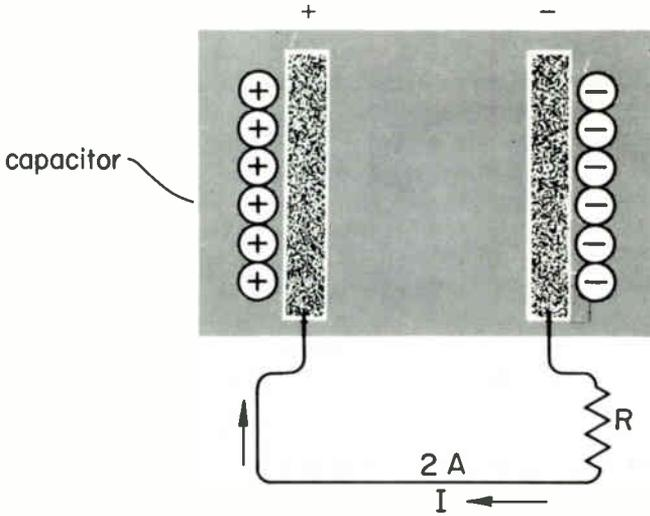

Fig. 13
1. Figure 13 shows a wire connecting a resistor *R* between the charged plates of a capacitor. Because of the potential of the opposing charges, a 2-A (ampere) current flows through the connecting wire. As a result, the quantity of electricity stored in the capacitor (*increases*) (*decreases*). The amount of electricity stored changes at the rate of _____ coulombs each second. If the original charge on the capacitor was 20 C (coulombs), the charge after the current has been flowing for 3 sec (seconds) will be _____ coulombs (assuming the current stays at a steady 2 A).
2. Referring again to Fig. 13, if the current strength when the wire is first connected is 2 A, will it actually be this much 1 sec later? Why?